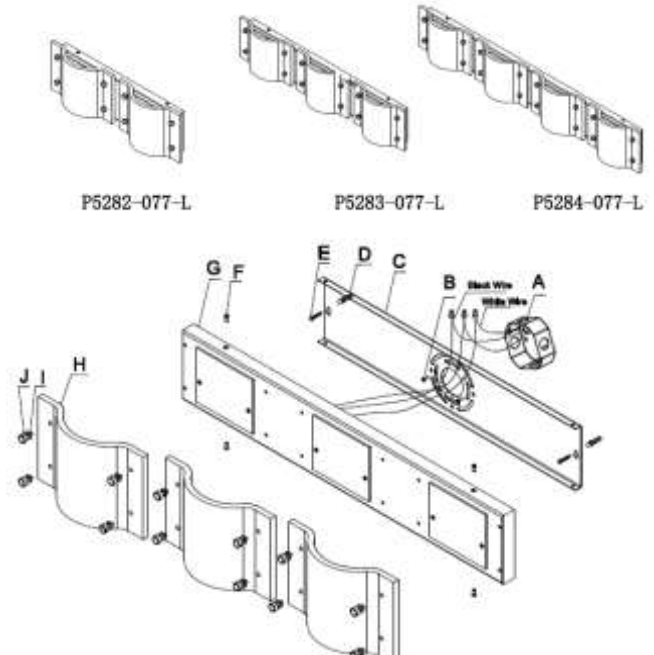

Fig.2
CONNECTING THE WIRES (FIG. 2)
7. At this point, connect the electrical wires as shown in Fig. 2, making sure that all wire connectors are secured. If your outlet has a ground wire (green or bare copper), connect the fixtures ground wire to it. Otherwise, connect the fixture ground wire directly to the back plate (C) using the green screw provided. After wires are connected, tuck them carefully inside the junction box.